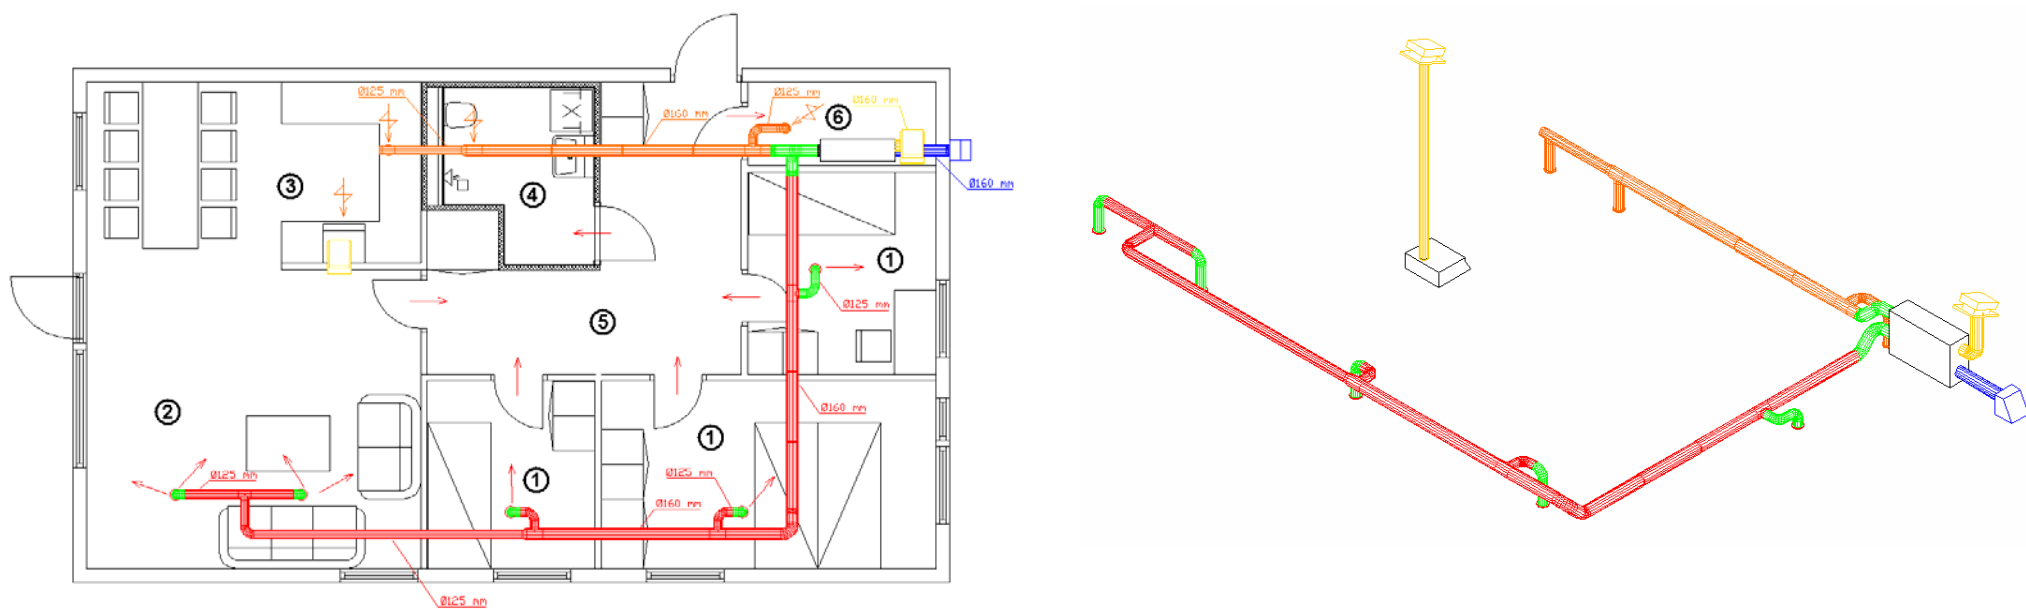

Fig. 2
**N****KANALANLEGG****Generelt (Fig. 2)**
**D****ROHRSYSTEM****Allgemeines (Fig. 2)**
**S****KANALSYSTEM****Generellt (Fig. 2)**
**GB****DUCT SYSTEM****General (Fig. 2)**